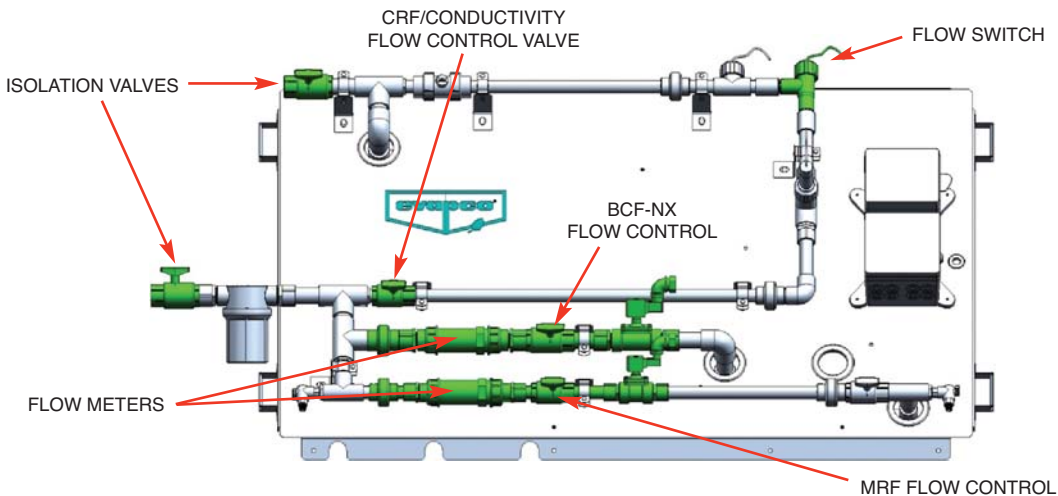

Figure 18 – Flow Control
- 5.3 Open Isolation Valves and set flow control valves. See Figure 18. The flow control valves should **NOT** be used to isolate piping.